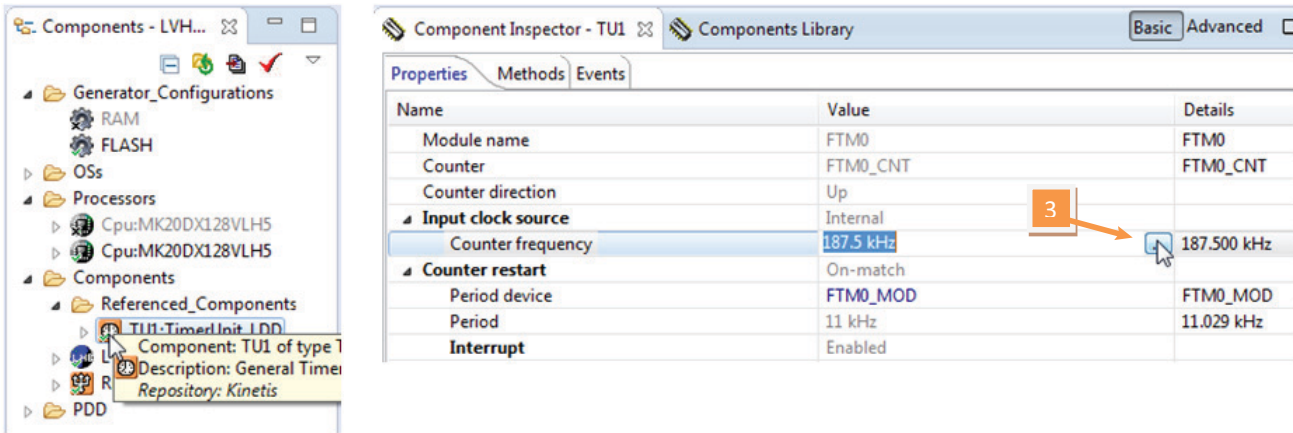

Figure 23. Component TimerUnit\_LDD Timing dialog
- Press the button in the Counter frequency field (see Figure 23).